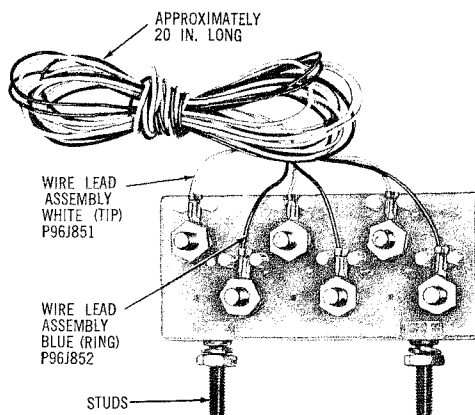

Fig. 1 — QBN1C Terminal Block
2.01 The MD3209 and MD3208 Terminals are furnished with one QBN1C Terminal Block (Fig. 1) which supersedes the P18A782 Block. Each binding post of the QBN1C Block has a single 24-gauge Wire Tip Assembly attached. The top (tip) posts have white leads and the bottom (ring) posts have blue leads.